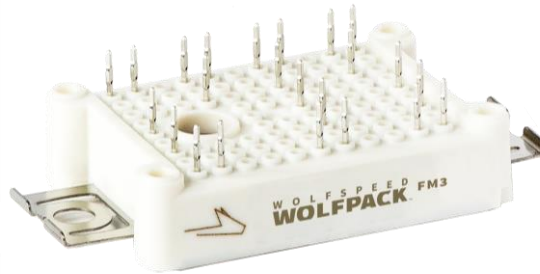

Figure 1. Example image of Wolfspeed WolfPACK™ FM3 Module.
This document describes in detail a clamped inductive load (CIL) test fixture designed to accurately measure the voltage and current waveforms of a Wolfspeed WolfPACK power module, shown above in Figure 1, under an inductive load switching event. This enables the calculation of switching loss energies under precise test conditions to dynamically evaluate the module and facilitate in-module comparisons and power electronic system design. During a CIL switching event, the voltage across and the current through a switch position are simultaneously present. Multiplying these two waveforms point by point results in a time-domain function of the instantaneous power in units of Watts (W). The instantaneous power has large peaks two times per switching period at the turn-on and turn-off events. The instantaneous power can then be integrated using built-in oscilloscope MATH tools or waveform data and post processing to determine the total energy lost in Joules (J) during a given switching event.